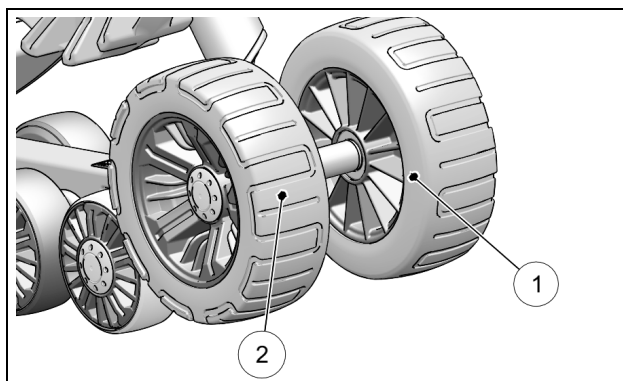

Figure 37
Verify wear on the Urethane Tires especially on the interior guidance strip (1) and between the tire profiles (2). The wheel must be replaced if the inner surface is worn out or the tire is cracked between the tire profiles. A wheel that is excessively worn will not offer enough support for track guidance. Track guides may also wear prematurely. Figure 37.